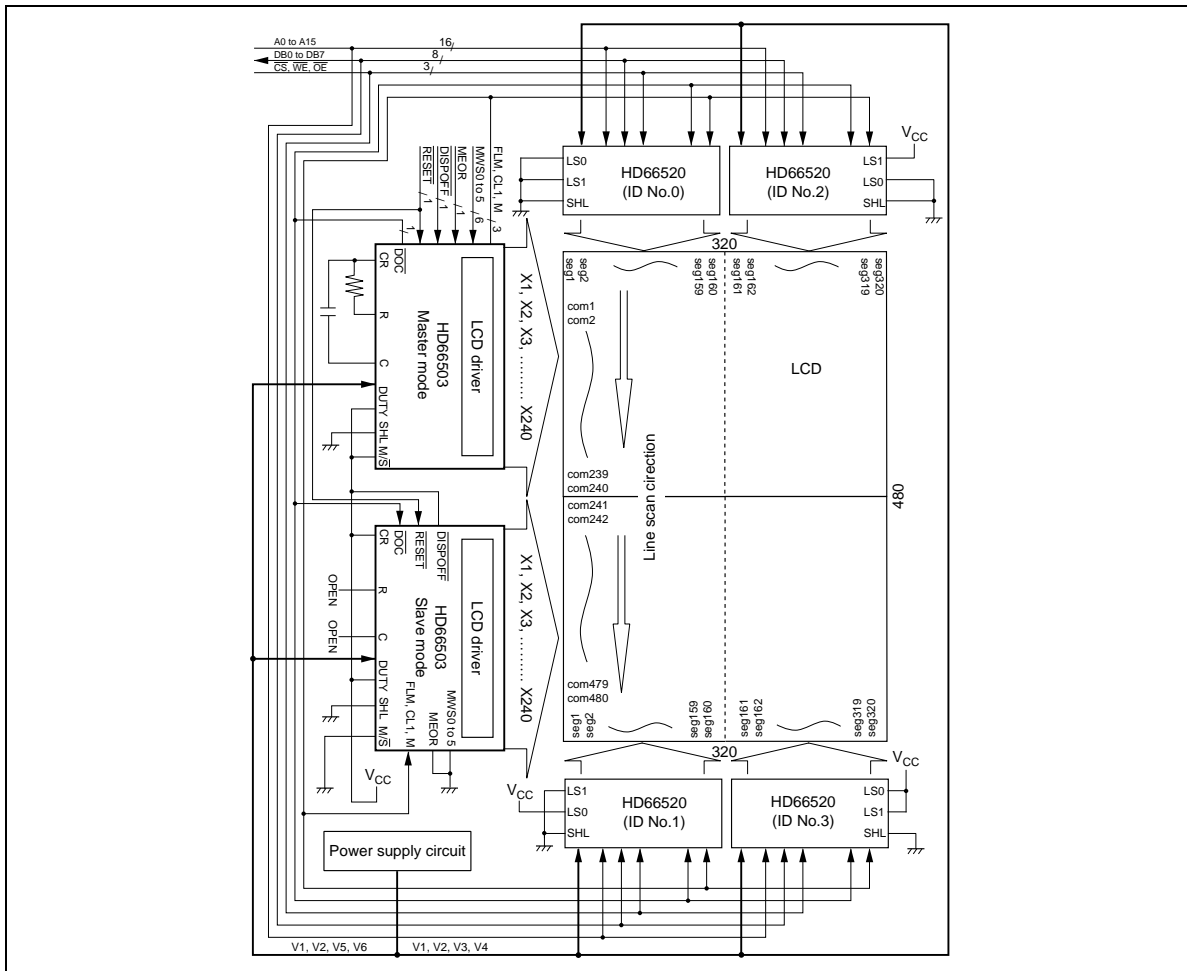

Figure 14 System Configuration (3)
Figure 14 shows a system configuration for a 320 × 480-dot LCD panel using segment driver HD66520 with internal bit-map RAM. Refer to Timing Chart (2) for details.